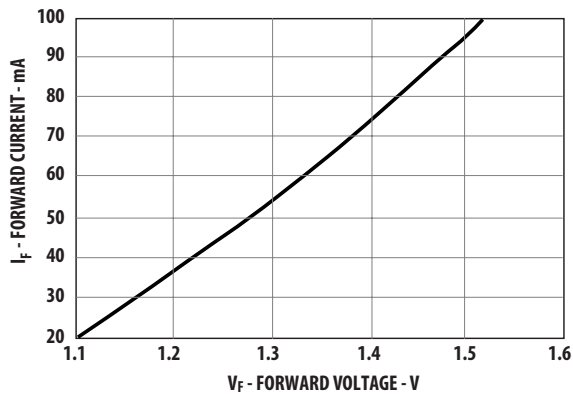

Figure 3. Typical forward voltage and current characteristics
| Forward Voltage                         | $V_F$                   | 1.1  | 1.4                 | 1.7  | V     | $I_F = 75$ mA            | Fig. 3 |
- Optical rise and fall times are measured from 10% to 90% with 62.5/125 μm fiber. LED response time with recommended test circuit (Figure 3) at 25 MHz, 50% duty cycle.